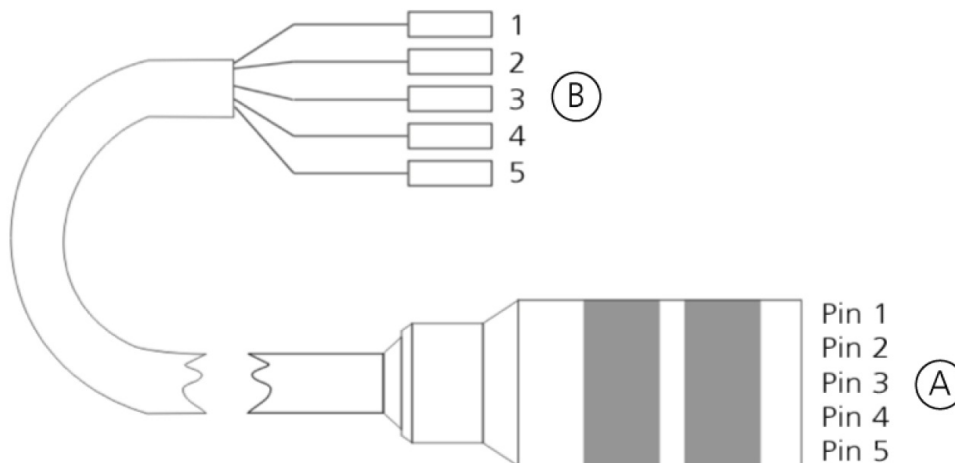

Figure 7: Pyrometer wire connection with configuration
3. Connect the colored wires of the 5-pole connecting cable (position B, Figure 7) to appropriate connections of a switchboard. For wire configuration please see legend to Figure 7.
4. Connect the 5-pole connecting cable to the pyrometer at the back of the instrument (position A, Figure 7) and to the power supply.